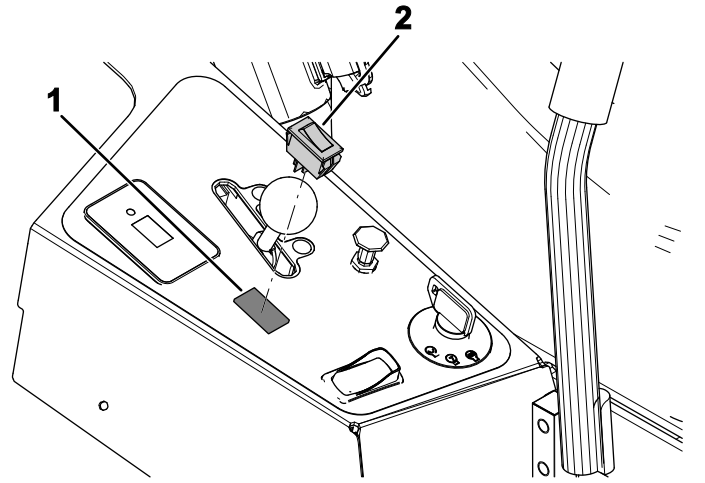

Figure 6
2. Install the headlight rocker switch into the control panel (Figure 6).